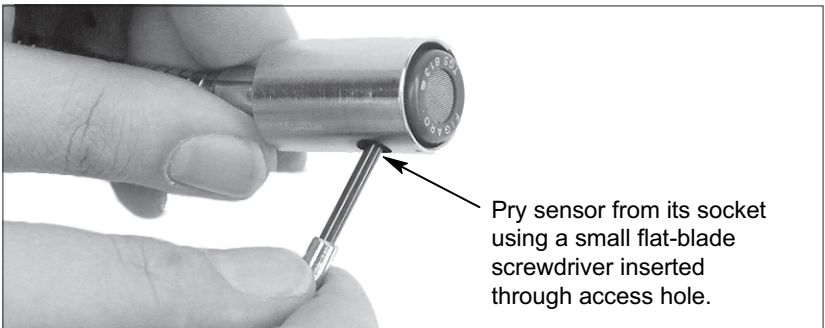

Figure 4. Removing Sensor
2. Pry sensor out of its socket using a small flat-blade screwdriver (Fig 4) and discard.